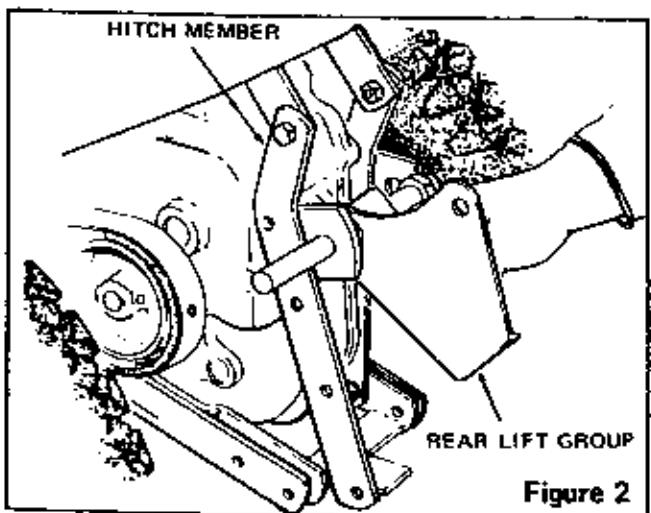

Figure 2
2. Swing hitch member outward and install lift assembly as shown. Return hitch member to original position and replace hex capscroes. See Figure 2.